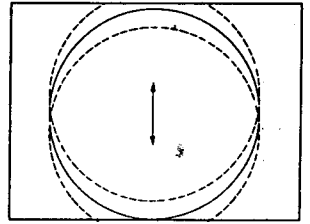

Fig. 2
2. Take reading at pin ⑬ of IC 201. (See waveform in fig. 2).
3. Adjust T 201 to align 38.9 MHz marker with retrace line (see fig. 2).
- Adjust the horizontal location to obtain picture centering (fig. 2).